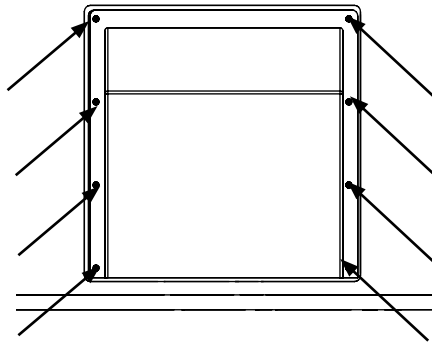

Figure A.3: Location of the eight screws securing the HP-4/MILO amplifier module
1. Using a #2 Phillips screwdriver, remove all eight screws from the amplifier module. This will free the HP-4/MILO electronics module from the MILO cabinet (Figure A.3).